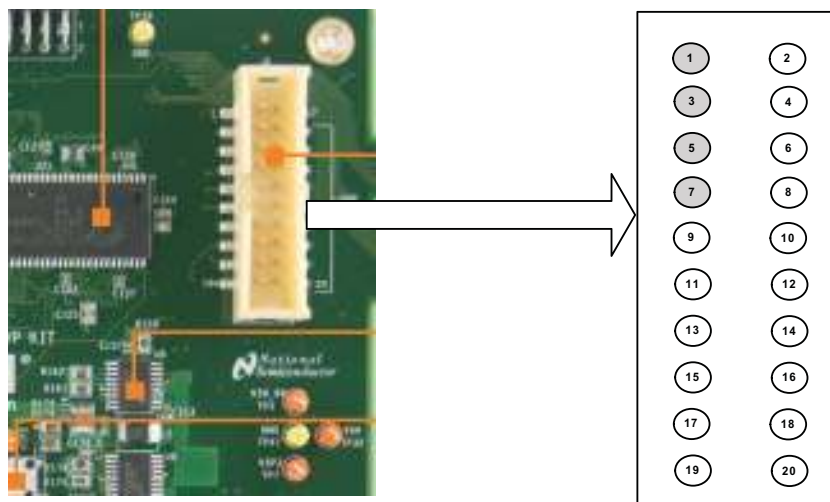

Figure 2-11 • J5 Connector on M1AF5-ADV-DEV-KIT Board
3. Connect the 22-pin cable supplied with Silicon Explorer II (for 18 channels, a clock, V_{CC} , GND, and clock GND) to the Silicon Explorer II hardware, and connect the first 4 channels to the pins in the J5 connector (Table 2-3 and Figure 2-11).